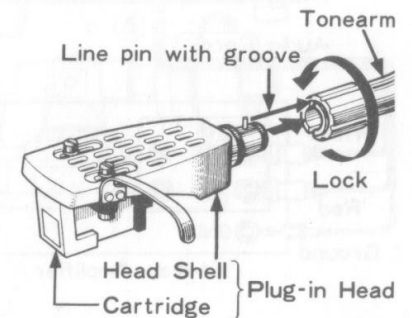

Fig. 5 Attaching the Plug-in Head
4. Attach the cartridge to the head shell as described under "How to attach the cartridge" on page 4. Turn the ring on the tonearm in the direction illustrated. This locks the head into the tonearm securely. (Fig. 5)